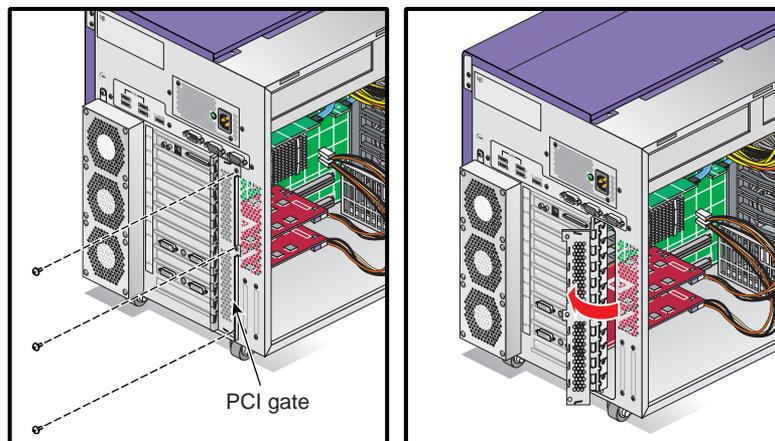

Figure 3-19 Opening the PCI Gate
1. Remove the three screws that secure the PCI gate to the enclosure; then open the PCI gate (see Figure 3-19).